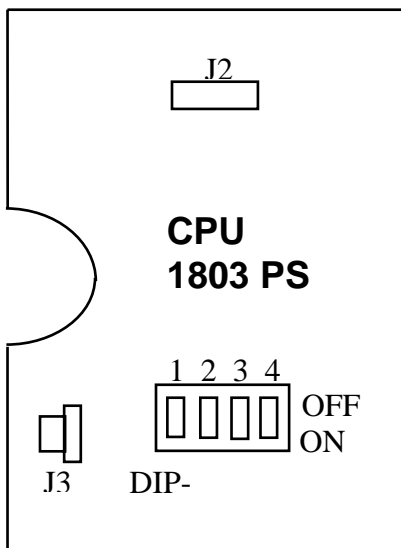

Figure 5-1. CPU Card
- Open the AMP battery compartment cover and turn the internal dip-switch 4 (the right dip-switch, see Figure 5-1) to the ON (calibration) position. The dip-switch position is specified by a **Cal.** label inside the battery compartment.